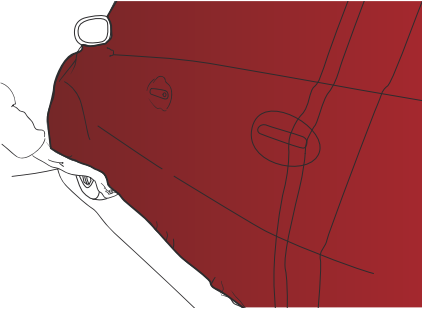

Figure 22
- › Once the door handles are done, stretch the film down to the bottom of the vehicle body. (FIG. 22)